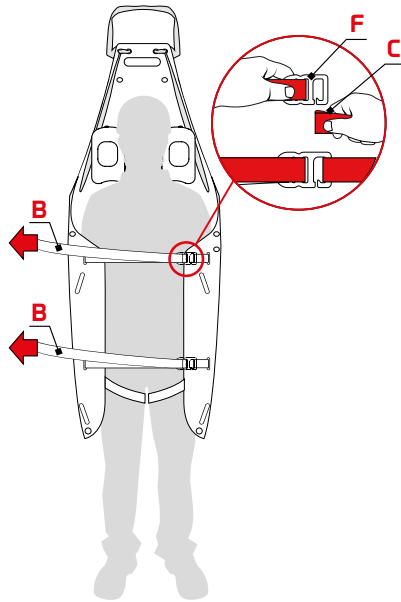

Fig.17
- Insert the buckles with hook (F) in the corresponding webbing loops (C) and tension the slings (B) to lift the side parts of the support surface (A) enough to contain the patient (fig. 17).